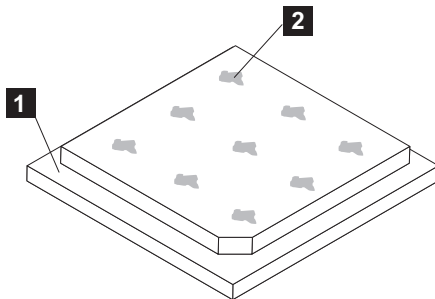

Figure 253. Applying thermal grease to the SAN Volume Controller 2145-CF8 microprocessor
- e. Use the thermal-grease syringe to place 9 uniformly spaced dots of 0.02 mL each on the top of the microprocessor, as shown in Figure 253. The outermost dots must be within approximately 5 mm of the edge of the microprocessor to ensure uniform distribution of the grease.